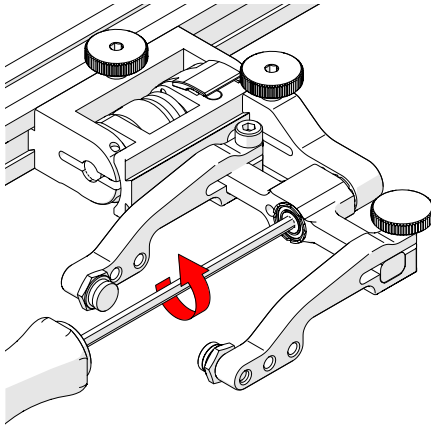

Fig. 103 - Unscrew yoke pivot screw
1. Unscrew the yoke from the swing arm (Fig. 103).